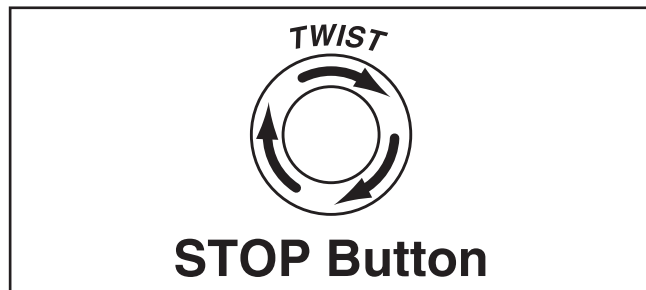

Figure 29. Resetting the STOP button.
3. Push the bandsaw STOP button in, then twist it clockwise so it pops out. When the STOP button pops out, the switch is reset and ready for operation (see **Figure 29**).